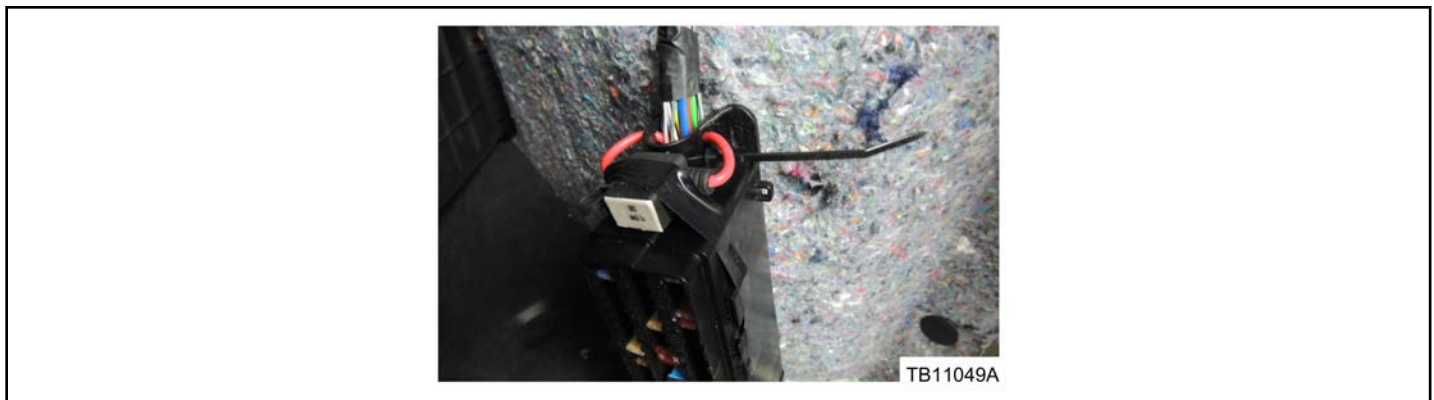

Figure 3 - Article 17-0032
10. Feed each end of the inline fuse holder service pigtail through a hole in the wire harness grommet. This is required so the fuse holder can be properly positioned on the left side of the RJB at the end of the procedure. (Figure 3)
17. Tie strap the service pigtail to the vehicle wiring so the wiring is positioned on the back of RJB to prevent damage and allow installation of RJB. (Figure 3)